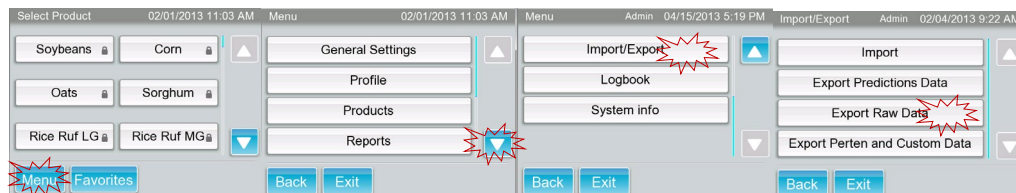

Figure 5A: select **Menu**; B: select down arrow; C: select **Import/Export**; D: select **Export Raw Data**.
8.7 Download the raw data onto the USB (see Figures 5a-d).